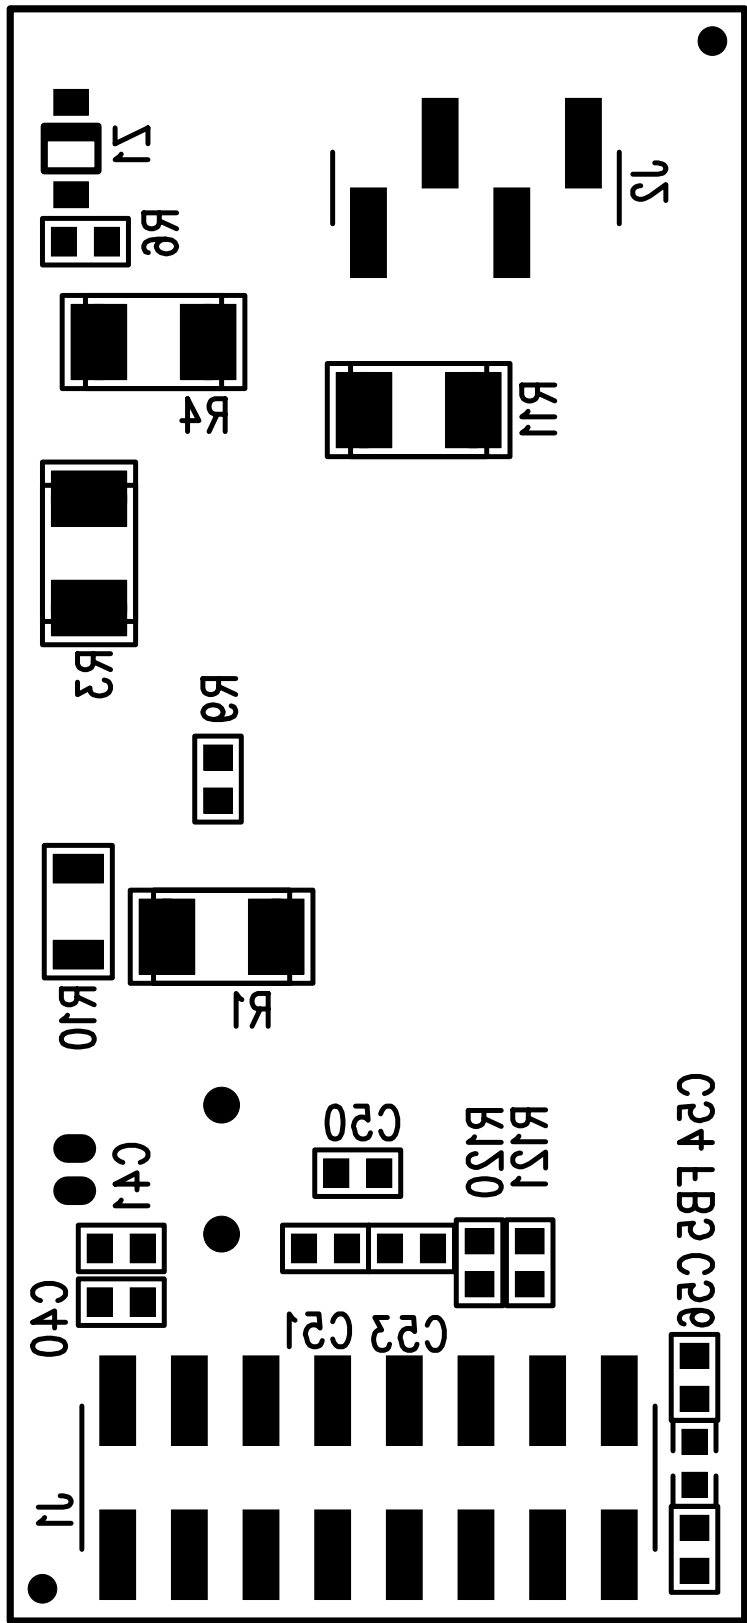

Figure 15. Daughter Card Secondary Side Silkscreen
- Updated Figure 15, “Daughter Card Secondary Side Silkscreen,” on page 24.